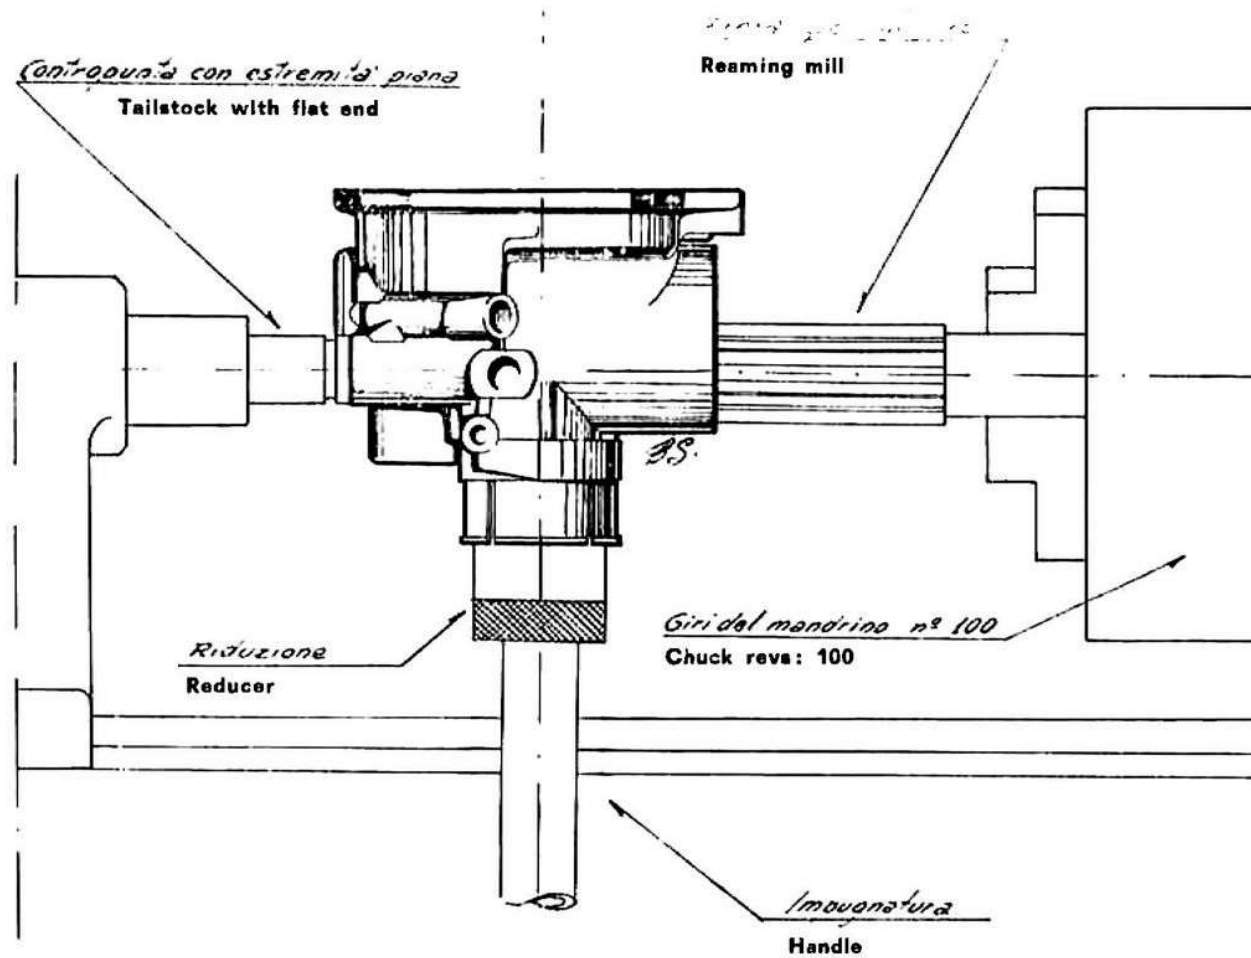

Fig. 112 - Reaming of the carburettor mixing chamber.
2) Take the milling cutter with front guide No. 03.20885 for the first coupling operation and fit it on the self centering piece of the lathe, as shown in Fig. 112, making sure that it is centered.